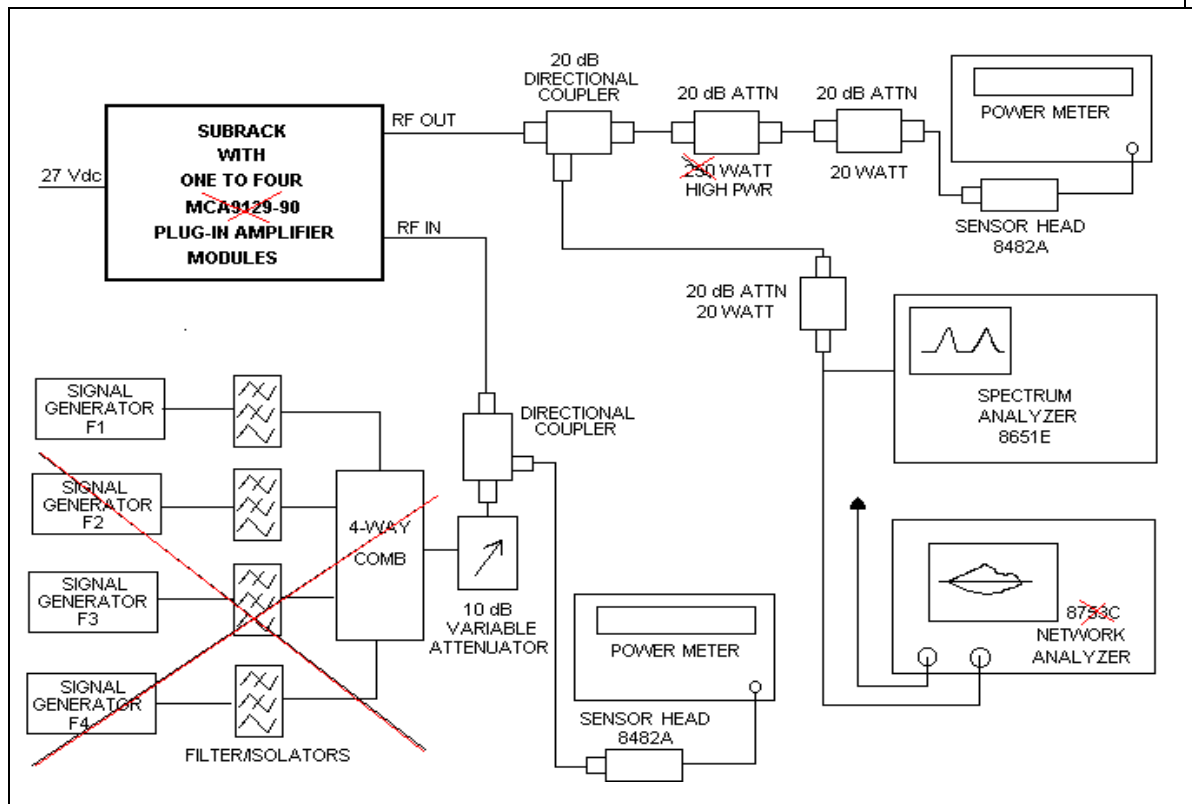

Figure 5-1 Amplifier System Test Setup Diagram
Performance testing should be conducted every 12 months to ensure that the amplifier system meets the operational specifications listed in table 5-3. Also verify system performance after any amplifier module is replaced in the field. The test equipment required to perform the testing is listed in table 5-2, and the test setup is shown in figure 5-1.
1. Connect test equipment to the subrack as shown in figure 5-1.